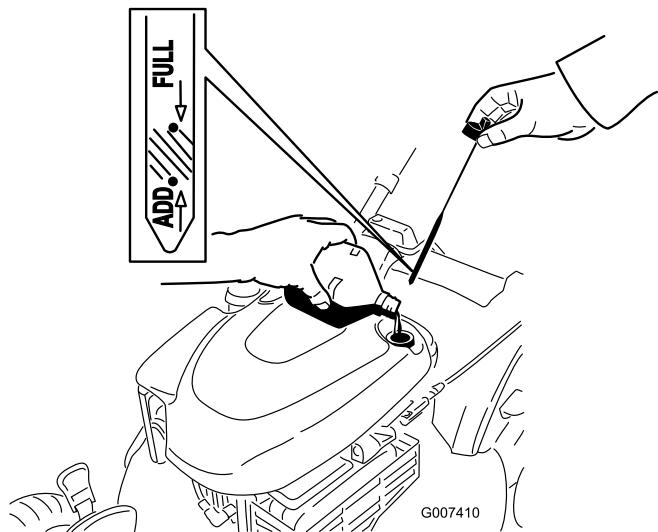

Figure 44
4. Slowly pour oil into the oil fill tube until the oil level reaches the **Full** line on the dipstick (Figure 44). **Do not overfill.** (Max. fill: 20 oz., type: SAE 30 detergent oil with an API service classification of SF, SG, SH, SJ, SL, or higher.)